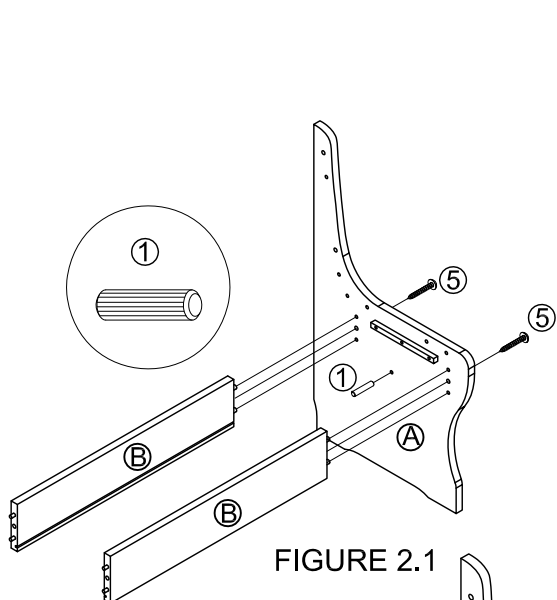

FIGURE 2.1
- 2.1 PLACE MIDDLE LEG #A USING (02) SCREWS ⑤ ON FLOOR. ATTACH SINGLE BENCH FRONT AND BACK RAILS #B (2X) TO MIDDLE LEG #A, INSERT (02) WOOD DOWEL ① INTO HOLES LOCATED ON THE MIDDLE LEG #A AND LEFT OUTSIDE LEG #F, AS SHOWN IN FIGURE 2.1